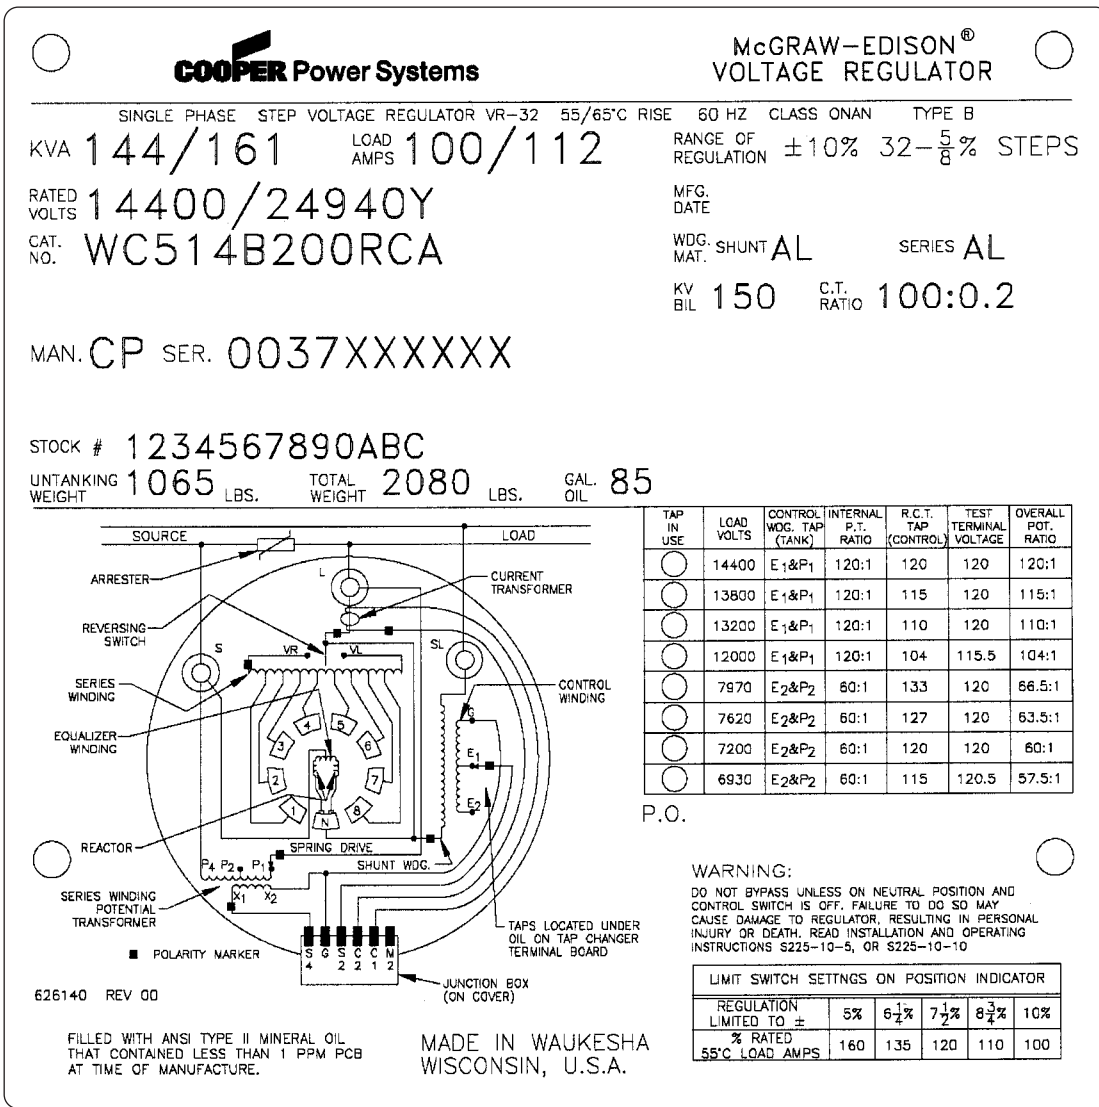

Figure 1-7. Nameplate of a 60 hertz regulator with an internal series winding P.T.
3. Open V_1 knife switch (and V_6 if present) on back panel (see Figure 1-7, page 1-8).
6. Open load (L) disconnect switch.
7. Open source (S) disconnect switch.
8. Open source-load (SL) disconnect switch, if available.